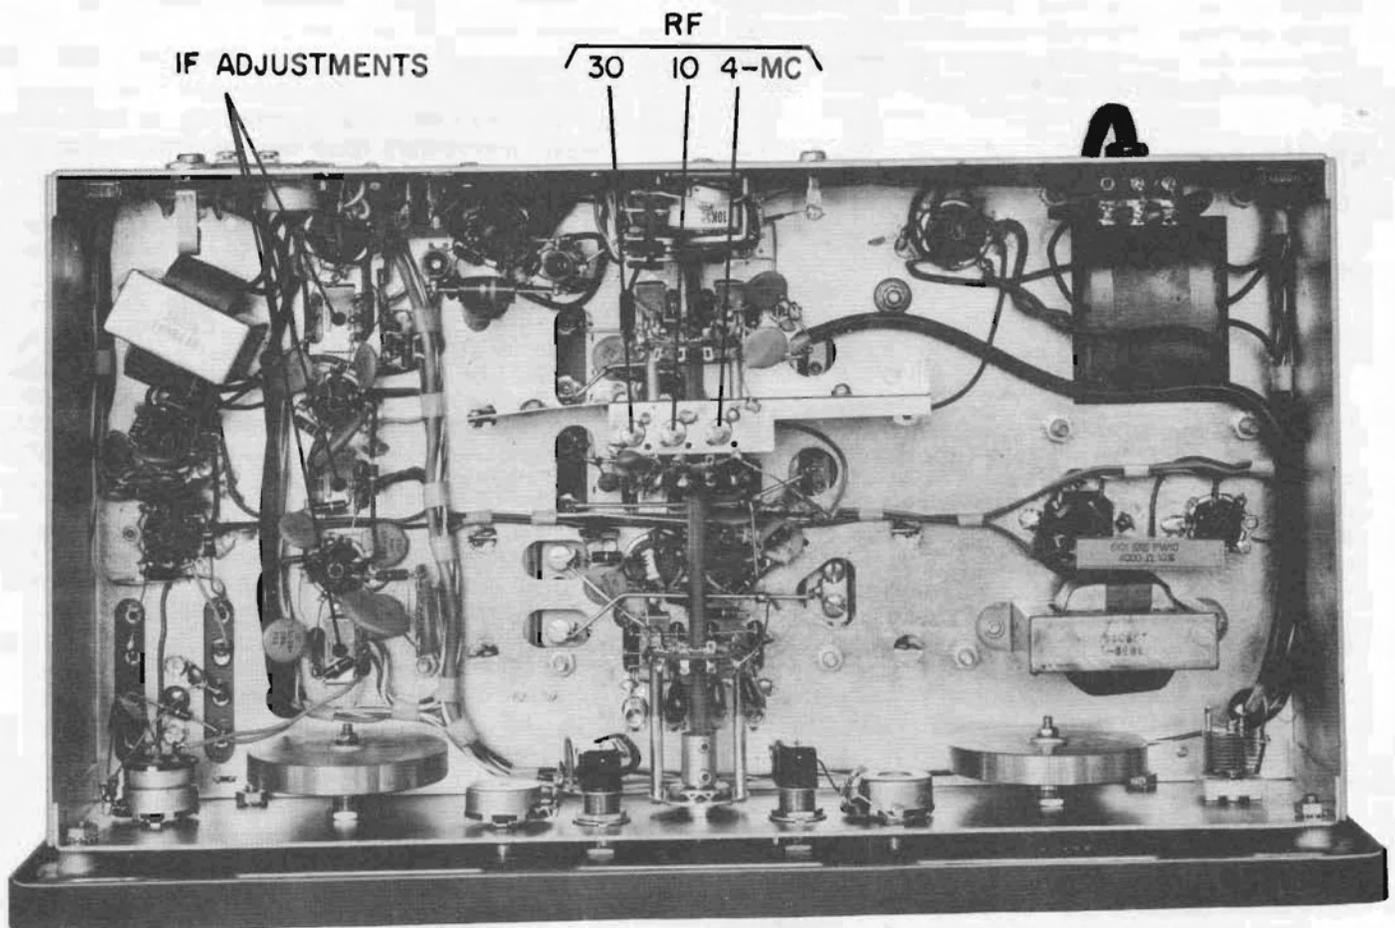

Figure 8. Bottom View of Chassis
- d. During alignment, adjust the generator output and the SENSITIVITY control to prevent overloading. Final adjustment should be made with the SENSITIVITY control at approximately the third indice from its maximum (clockwise) position. Adjust each of the three IF transformers for maximum meter reading. Topside adjustments (Figure 7) are secondaries or grid circuits; bottom of chassis adjustments (Figure 8) are primaries or plate circuits.